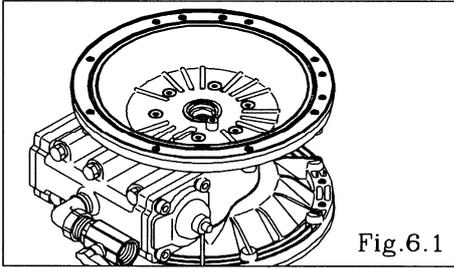

Fig. 6.1
- Remove the 12 retainer bolts from the air chamber, and remove the air chamber. [Fig.6.1]